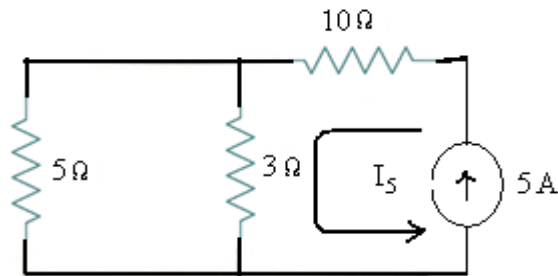

Fig.2
**Solution:** To find out the Norton's equivalent ckt we have to find out  $I_N = I_{sc}$ ,  $R_N = V_{oc} / I_{sc}$ . Short the  $1.5\Omega$  load resistor as shown in (Fig 2), and Calculate / measure the Short Circuit Current. This is the Norton Current ( $I_N$ ).
Similarly the current  $I_5$  in the resistance of  $3\Omega$  due to the current source of  $5\text{A}$  alone with voltage source of  $20\text{V}$  short circuited [ as shown in the figure.2 below ] is given by :
- Actually, the RMS value of a sine wave is the measurement of heating effect of sine wave. For example, when a resistor is connected to across an AC voltage source, it produces specific amount of heat (Fig 2 – a). When the same resistor is connected across the DC voltage source as shown in (fig 2 – b). By adjusting the value of DC voltage to get the same amount of heat generated before in AC voltage source in fig a. It means the RMS value of a sine wave is equal to the DC Voltage source producing the same amount of heat generated by AC Voltage source.